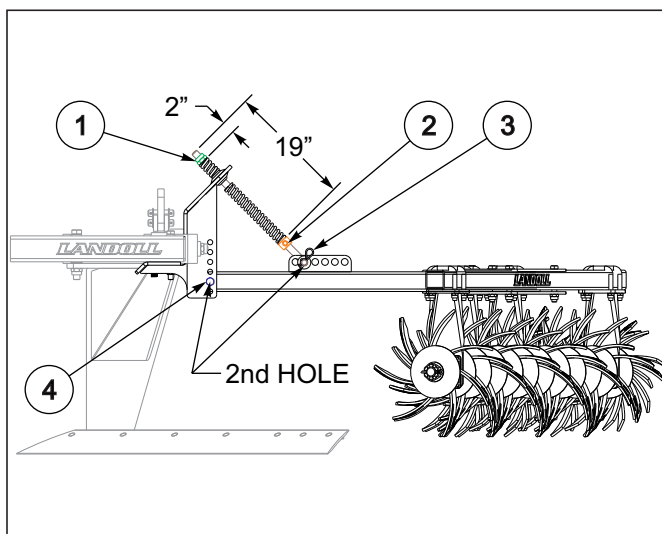

Figure 4-18: Treader Wheel Setting
1. Initially set the depth of the treader wheels as shown **See Figure 4-18.**
3. To adjust the treader wheels, loosen set screw on the locking collar (2) and slide collar up or down until the 19" distance is set. Tighten 1/2"-13x1-1/4" set screw and tighten the 1/2-13 jam nut. Now the 1"-8 lock nut (1) can be adjusted until the 2" distance is set.
4. For different field conditions or different working depths the treader may be raised or lowered. Start by adjusting the treader adjustment rod by removing 3/16" hair pin (3) and moving this to a different hole in plate (rear hole to raise or front hole to lower). Re-install the 1" flat washer and the 3/16" hair pin to secure.
5. If more adjustment is needed, the 3/4"-10x5-1/2" hex bolts (4) may be removed and either move treader arm weldments up to a different hole to raise wheels or a lower hole to lower wheels. Re-install the 3/4"-10x5-1/2" hex bolts, 3/4" lock washers and 3/4"-10 hex nuts.